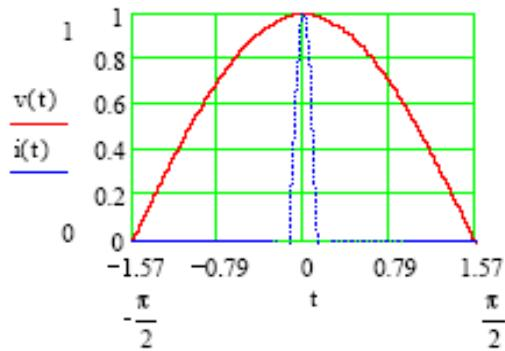
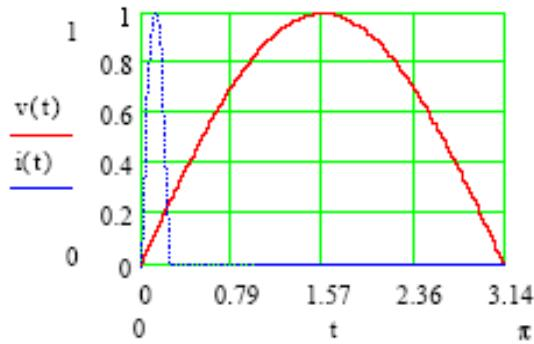

Figure 7-2 The Maximum PF Passing the Fixed CF
Figure 7-3 The Minimum PF Passing the Fixed CF
waveform and the current waveform is a sine wave or a corrected sine wave. The maximum power factor of a fixed crest factor is occurred at the maximum overlap of the input voltage waveform and the current waveform. In other words, the peaks of voltage and current occur at the same time. The minimum power factor occurs at the minimum overlap of the input voltage waveform and the current waveform. In other words, the zero-crossing points of the voltage and current waveforms are the same as shown in Figure 7-2 and Figure 7-3.
1. Figure 7-2 shows the maximum PF when setting CF state in CC Rectifier mode (section 7.4.1) and CS Rectifier mode (section 7.4.2).